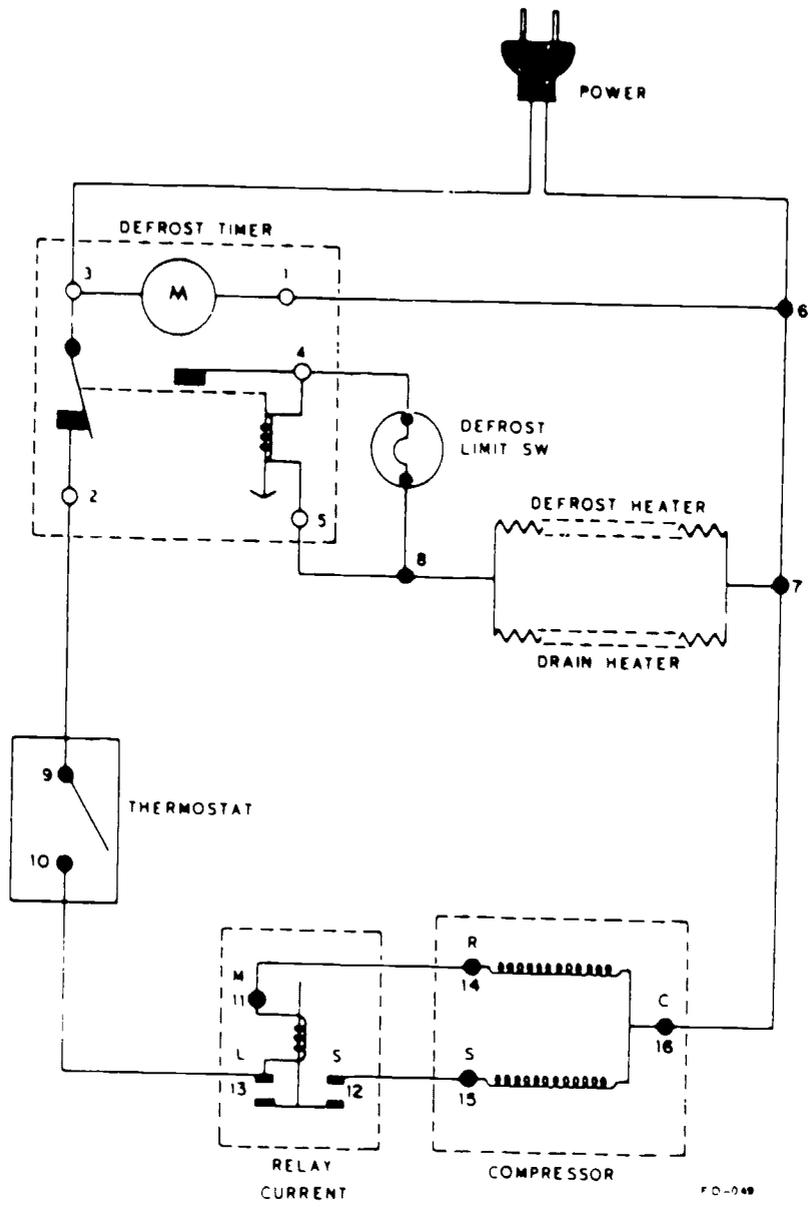

Figure 1 . Electrical Defrost
1. With the aid of the Electrical Defrost Schematic (Figure 1), explain why the following conditions occur.